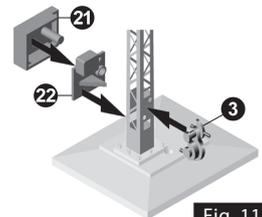

Fig. 11
18. Now the imitation of the lantern-winch (3) has to be inserted into the matching holes at the bottom of the mast. Fix it with a drop of superglue [Fig. 11].
19. The back part of the drive casing (22) is now being glued into the matching holes at the bottom of the mast [Fig. 11]. Make sure that the case juts out to the front side. After that, mount the front part (21) of the casing.
20. Push the socket of the positioning wire (13) onto the undulated end of the wire (23). After that, stick the wire from above into the matching hole of the base plate (1) (position: left side, looking from the front). Then clinch the socket (13) into the matching eye of the positioning mechanism (12).